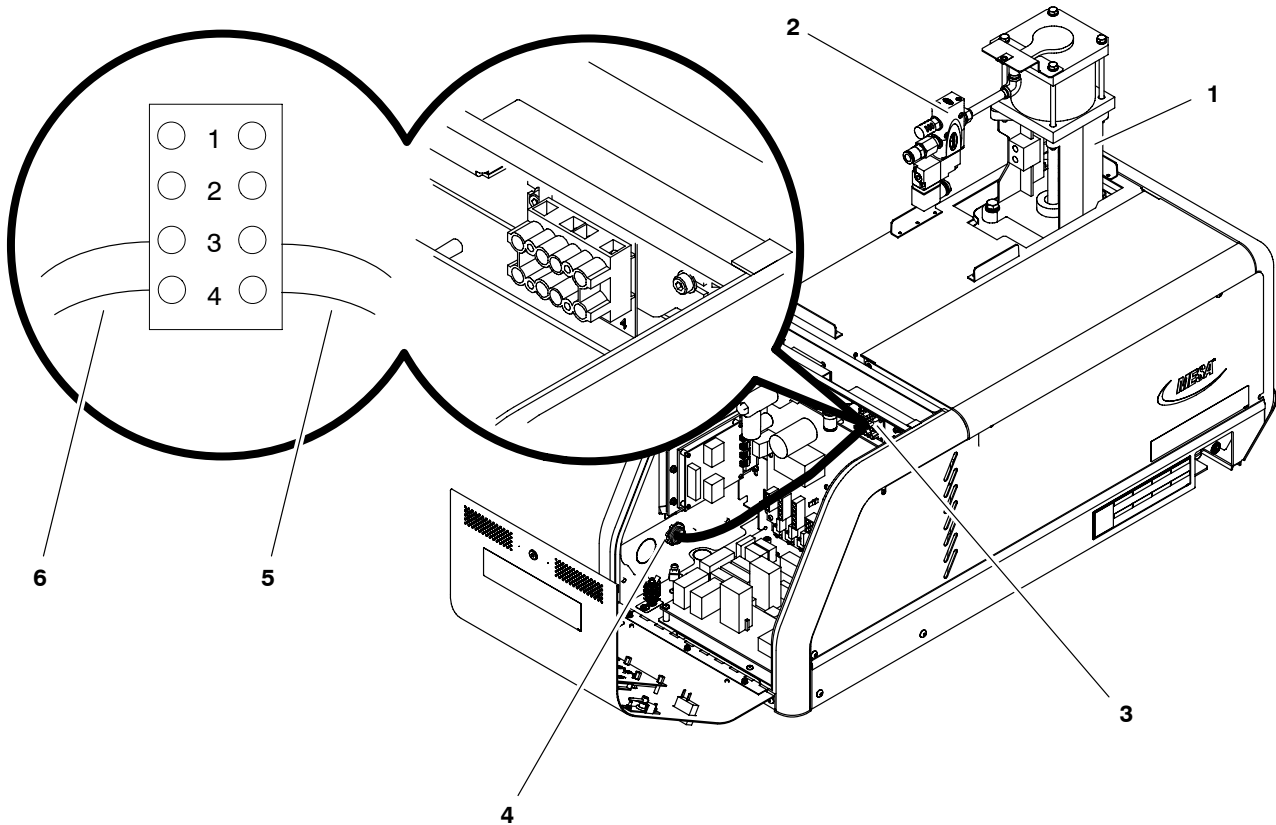

Figure 3-9 Connecting a triggering device for the pump solenoid valve (single-acting pump only)
If your melter has a single-acting 10:1 pump and triggering solenoid valve as shown in Figure 3-9, follow this procedure to connect a 24 VDC triggering device to the center frame terminal block.
1. See Figure 3-9. Remove and discard the plug from a knockout hole on either the back side or the bottom of the unit (whichever is most convenient for your operation) and install a strain relief (4) in the hole. Refer to the following table for the appropriate size strain relief.